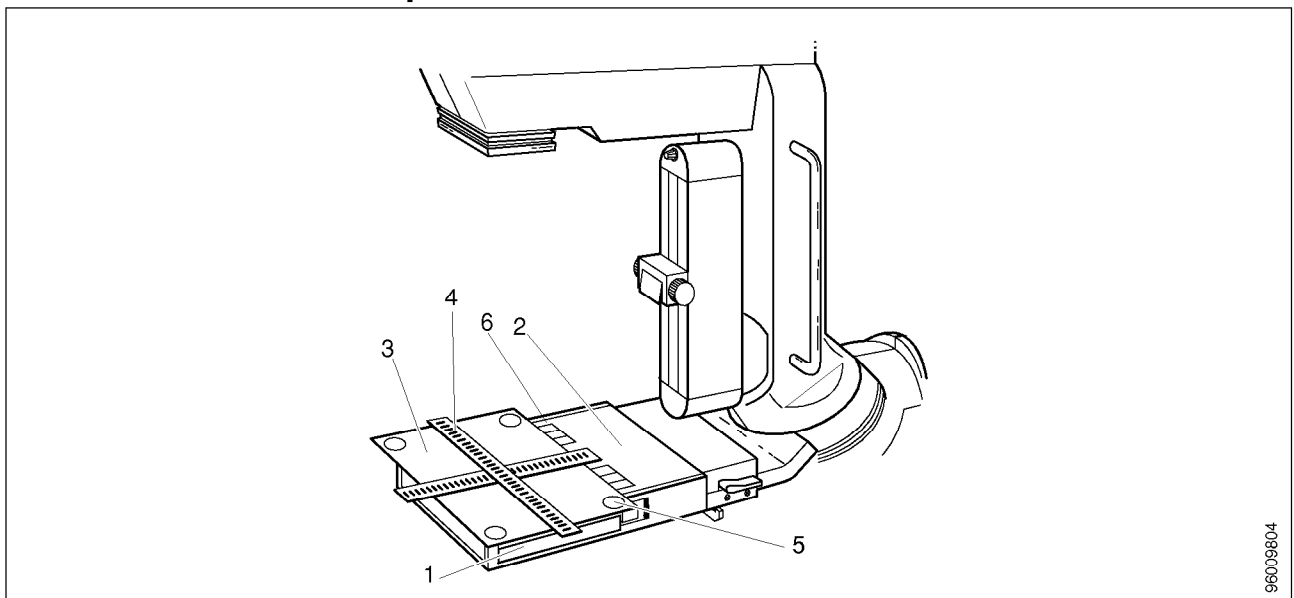

Fig. 1
- Insert a film in the cassette and center it (1/Fig. 1).
- Insert the cassette in the object table (2/Fig. 1).
- Place a film envelope (3/Fig. 1) on the object table.
- Place the centering cross (4/Fig. 1) on the film envelope or on the cassettes.
- Switch on the light localizer (5/Fig. 1) and mark the edges of the light field with four washers (or coins).